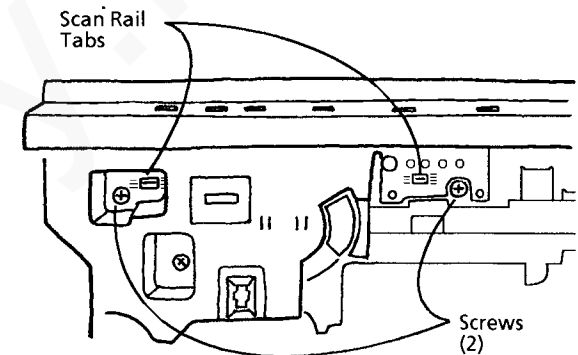

Figure 2. Adjusting the Scan Rail
1. Adjust the Scan Rail (Figure 2).
- a. Loosen the screws (2).